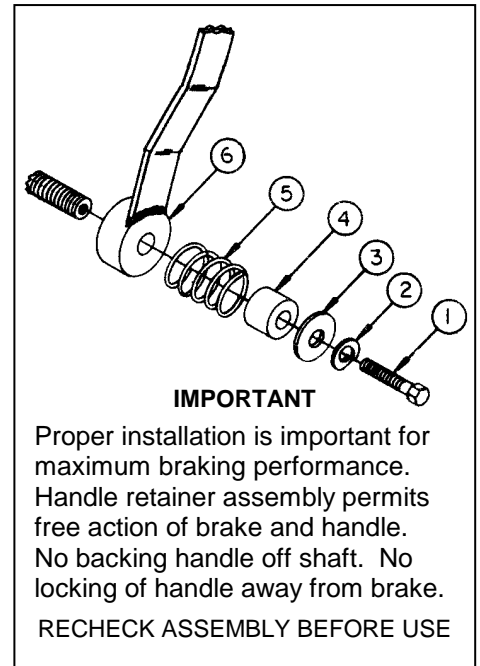

Fig. 1: Handle Retainer Assembly
- A. **HANDLE.** Insert handle (item 6, Fig. 1) on threaded brake assembly shaft. Thread handle to point of engagement (touching) of brake pad.
- B. **HANDLE RETAINER ASSEMBLY.** Insert Bolt (Item 1, Fig. 1) through lockwasher (Item 2, Fig. 1), flatwasher (Item 3, Fig. 1), spacer (Item 4, Fig. 1) and spring (Item 5, Fig. 1- spring will fit over spacer). Recheck Fig. 1 to ensure proper order of assembly.
Install bolt containing assembled retainer parts (Fig. 1) into threaded end of brake shaft and tighten bolt securely.